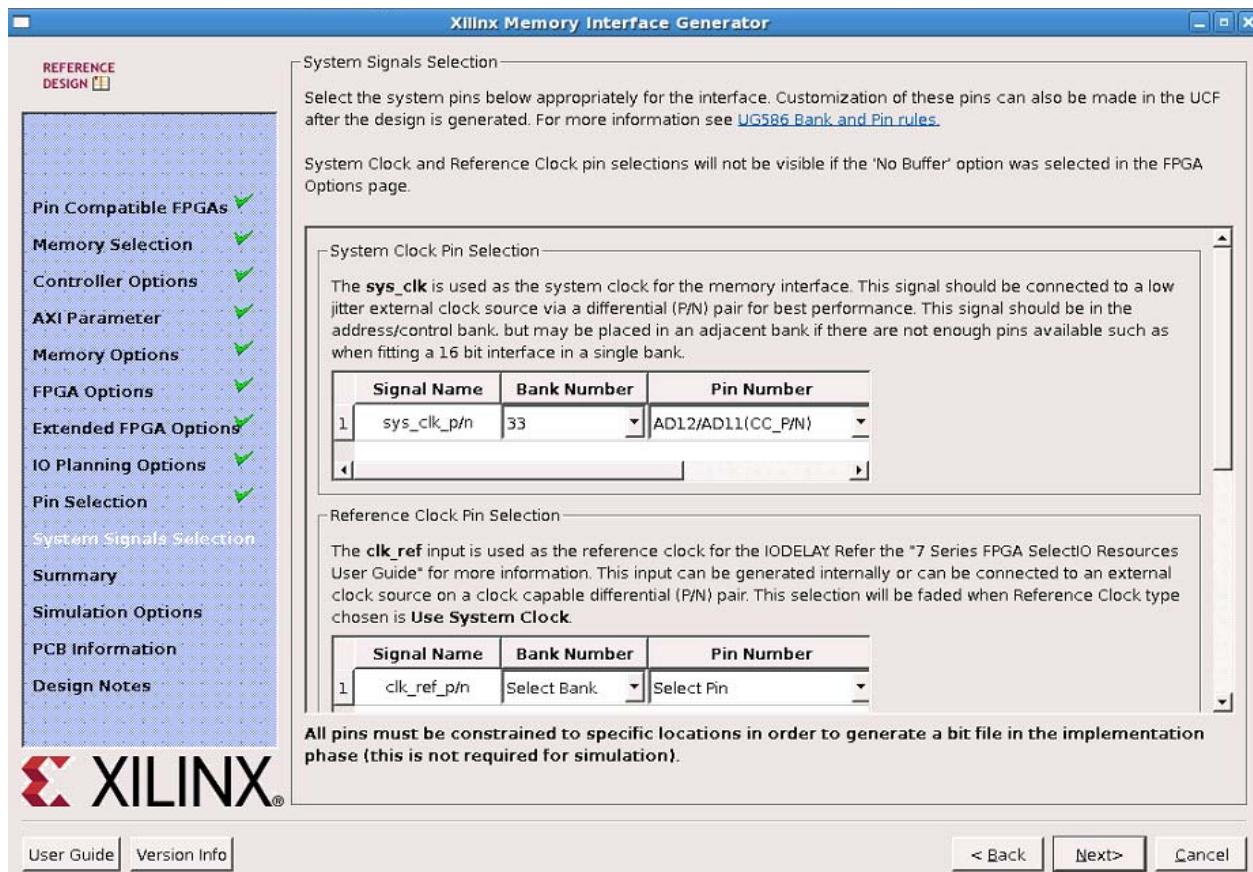

Figure 36: MIG System Signals Selection
16. For the **System Signals Selection**, set the **sys_clk_p/n** to **AD12/AD11** (default), then click **Next** (Figure 36).